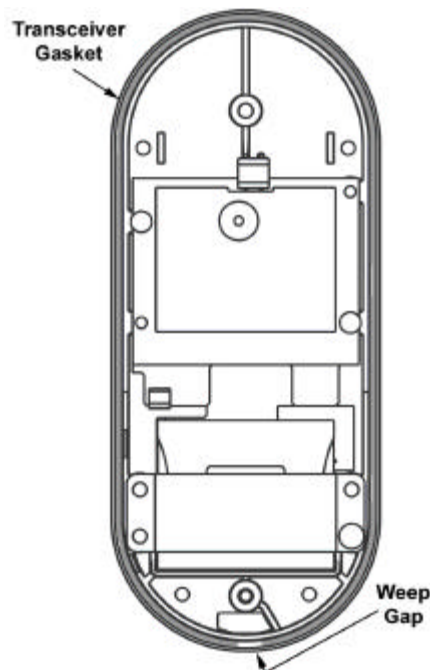

Figure 2-36 – MIRL Transceiver Gasket
2.20.2 If the Transceiver Gasket (Figure 2-36) is not already mounted on the Transceiver Base Plate, position the Transceiver Gasket in the outer groove of the Transceiver Base Plate making certain that the ends of the Reader Gasket are at the bottom of the base plate and that there is a Weep Gap.